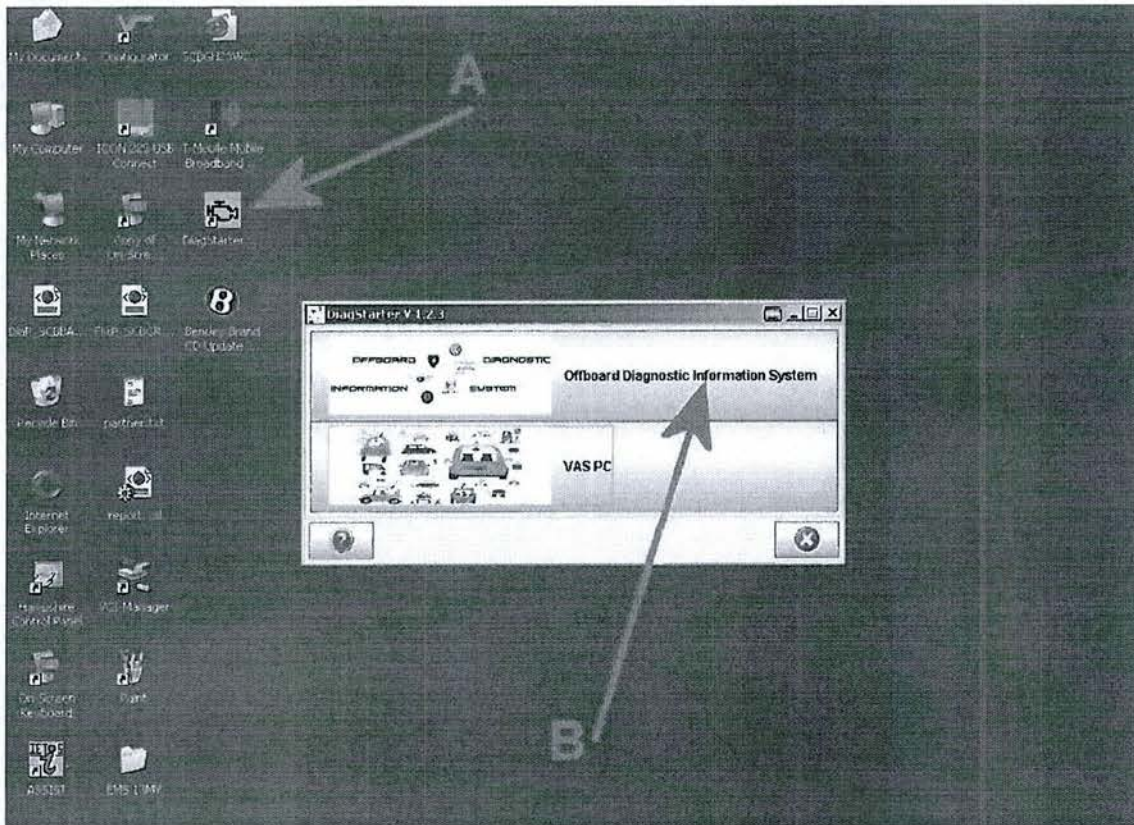

Figure 1
1. From the Desktop launch the Offboard Diagnostic Information System Service using the Diagstarter icon (Figure 1 Point A)
-Select Offboard Diagnostic Information System (Figure 1 Point B) and follow all on screen prompts